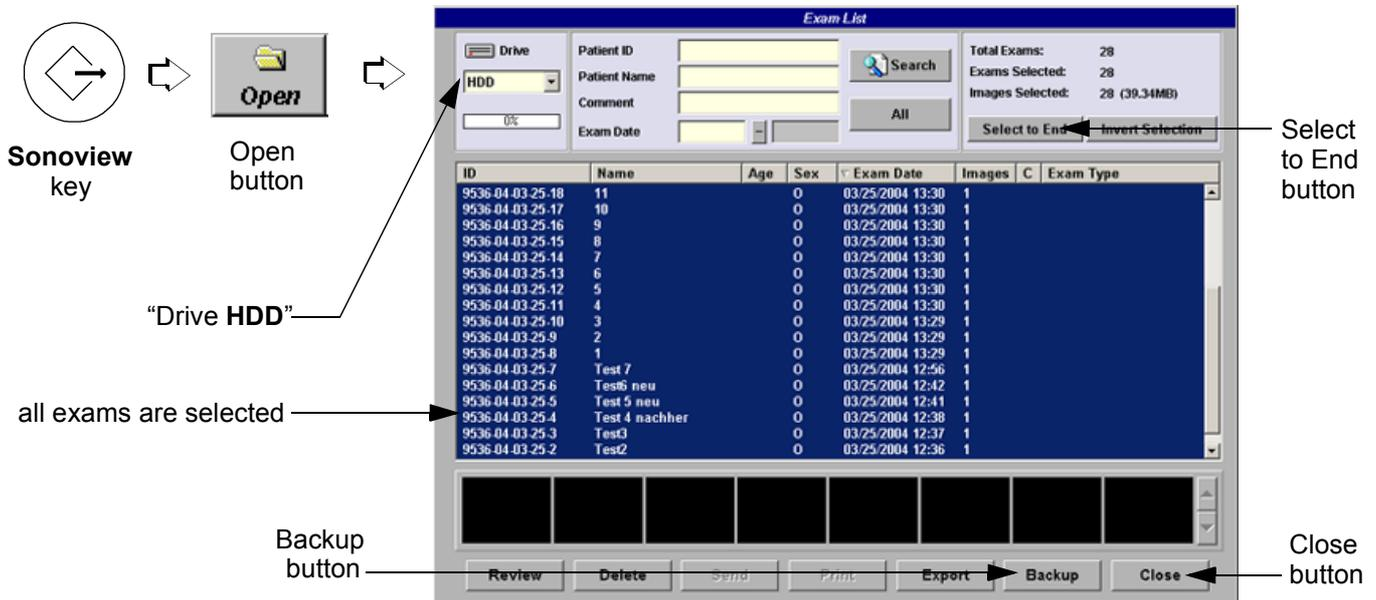

Figure 8-18 Step 1.) to 5.)
- 7.) Click the CLOSE button (see: Figure 8-18) and then select the SETTINGS icon (see: Figure 8-20) on the left side of the screen.